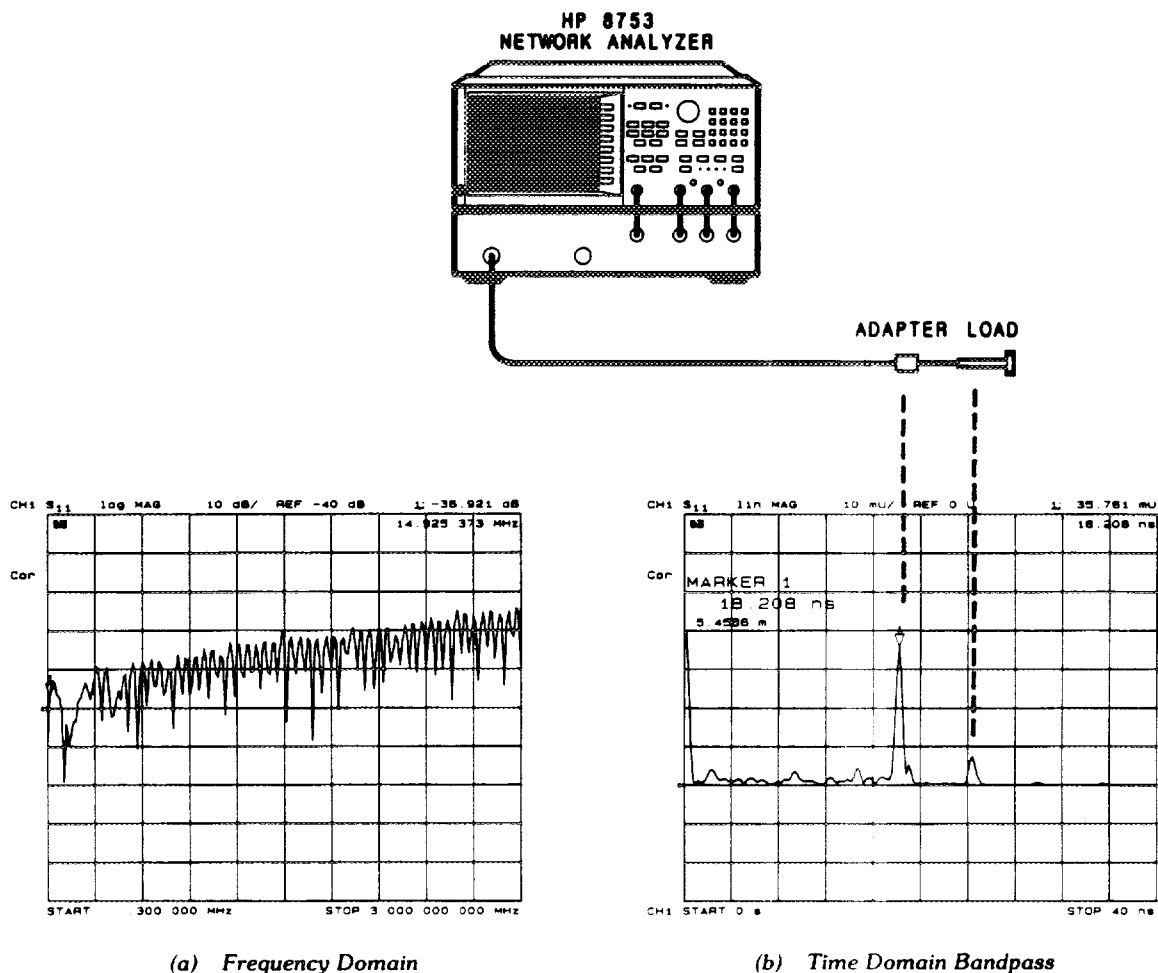

Figure 8-3. A Reflection Measurement of Two Cables
3. Connect one or more lengths of cable, with adapters between cable sections, as shown at the top of Figure 8-3.
Figure 8-3 shows typical frequency and time domain responses of a reflection measurement of two sections of cable.
Interpreting the Bandpass Reflection Response Horizontal Axis. In bandpass reflection measurements, the horizontal axis represents the time it takes for an impulse launched at the test port to reach a discontinuity and return to the test port (the two-way travel time). In Figure 8-3, each connector is a discontinuity.